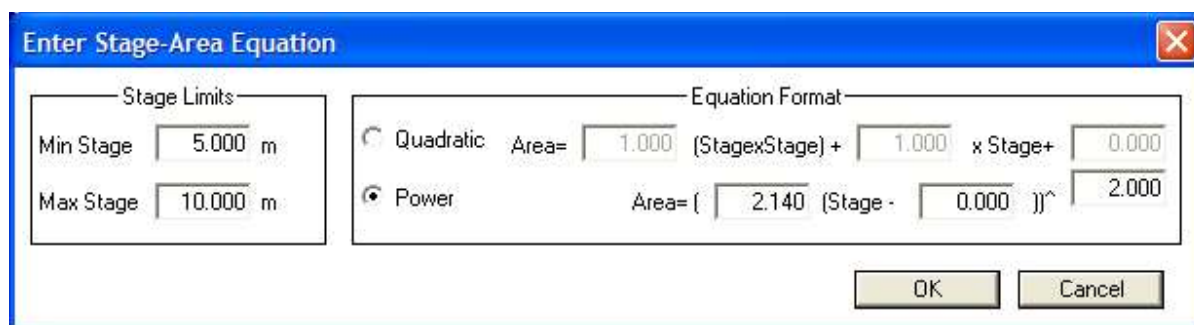

Figure 5-42. Deployment Software: Stage-Area Equation
- **Add Equation** (click this button to add another stage/area equation using the dialog shown in **Figure 5-42**)